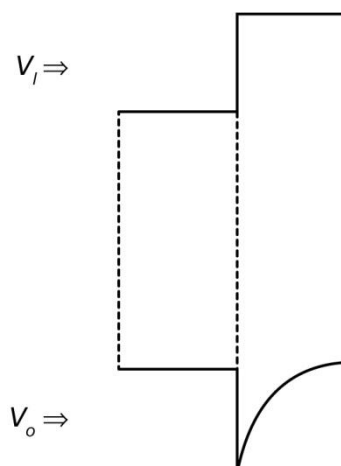

Fig. 14.24: Output of a differentiator with input signal.
6. The output waveform is as given in Fig. 14.24.